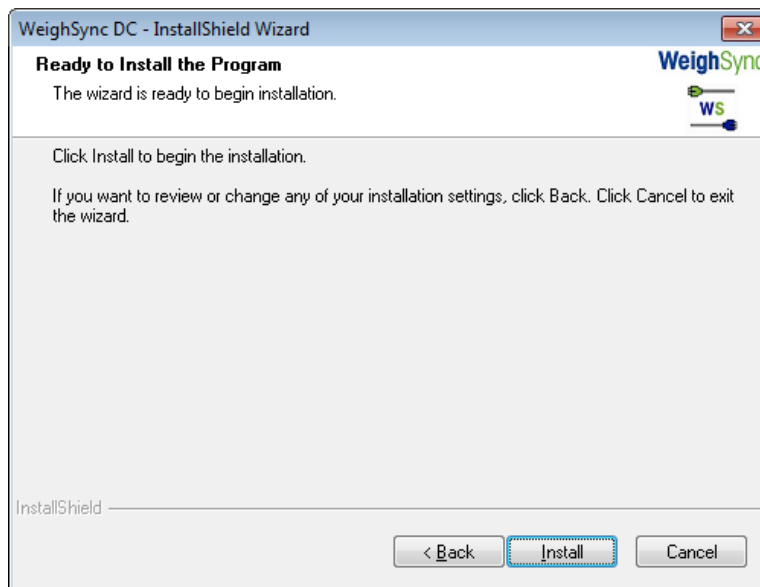

Figure 1-6: Ready To install
- In the screen that appears (Figure 1-6), click **I**nstall.